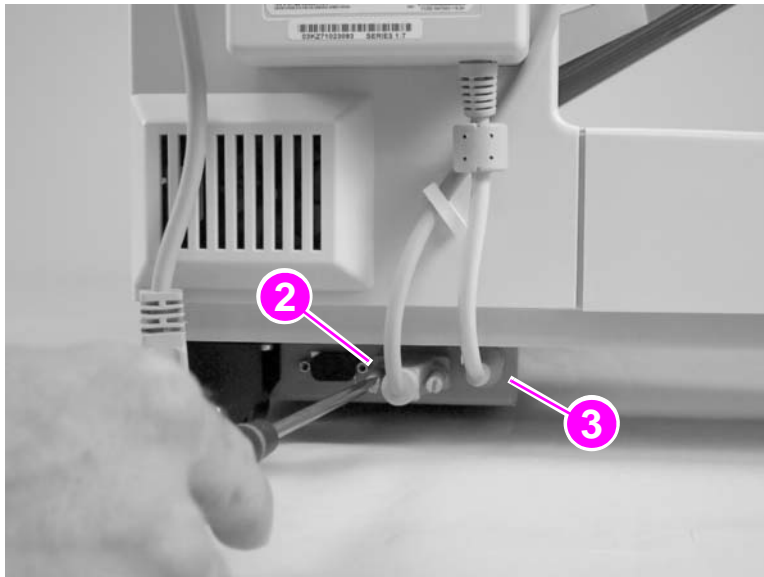

Figure 133.
- 2 Disconnect the power cable from the PCA. See figure 133.